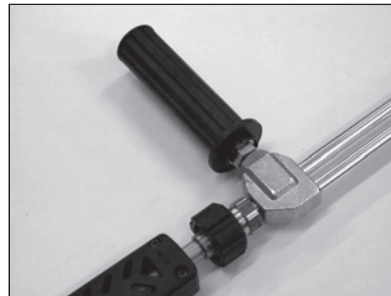

Figure 9
**Dual Lance** — Turn black handle grip clockwise until it stops—Figure 9.